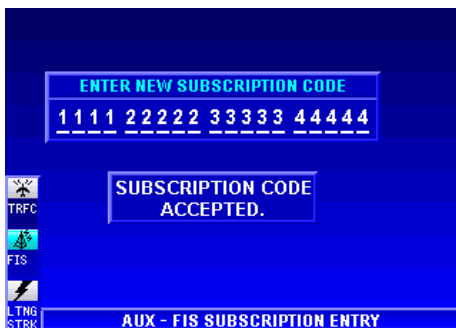

Figure 2-16
7. After entering the last Subscription Code character, press the **ENTER** Softkey. The subscription should be accepted and processed as shown in Figure 2-16.